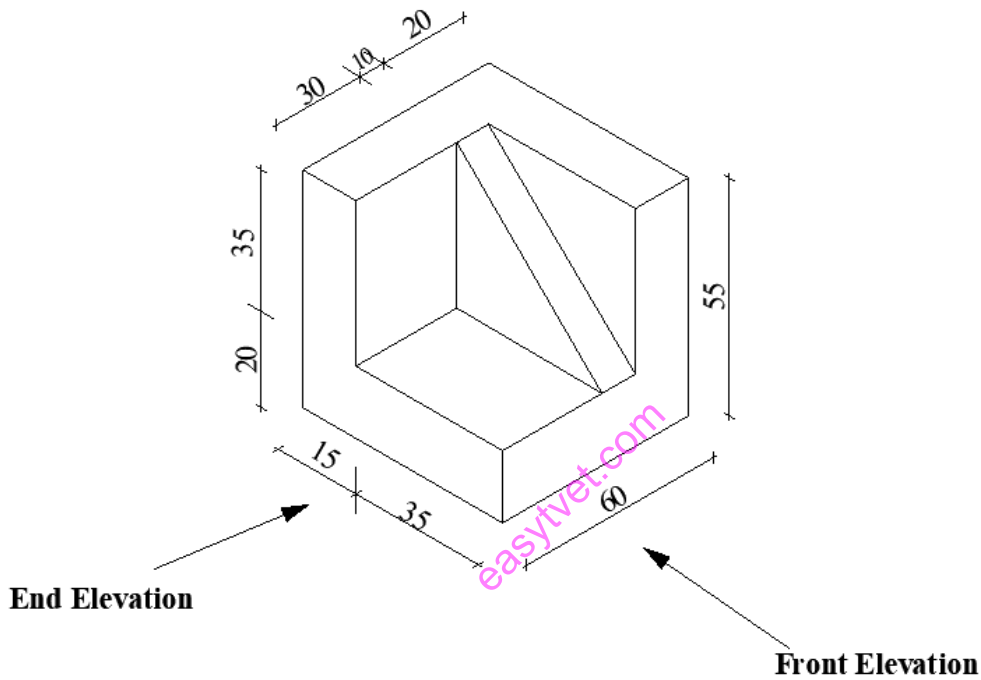

Figure 3
13. Figure3 below shows a pictorial view of an object. Draw the orthographic views in first angle projection. (20 Marks)